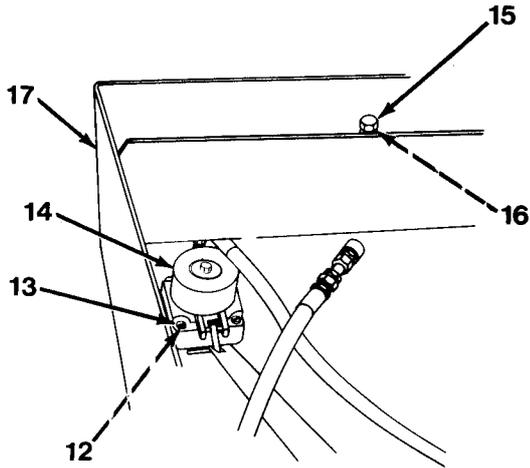

Figure 14-3
1. Support tool box (17, Figure 14-3) on suitable blocking or floor jack.
2. Install tool box (17), six washers (16) and capscrews (15).